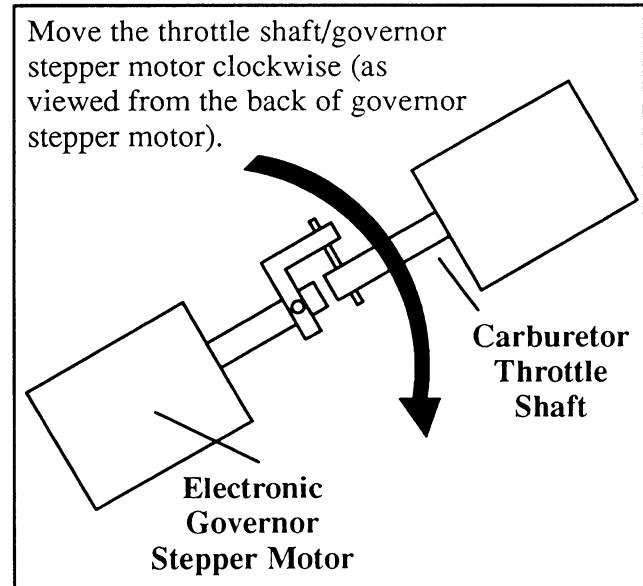

Figure 3-26. Manually Moving Stepper Motor
9. With unit running check overspeed cutout point. Manually move the throttle shaft/governor stepper motor coupling clockwise (as viewed from the back of the governor stepper motor). See Figure 3-26. Do not use **speed** adjustment pot. to check the overspeed cutout point. Observe frequency meter and note frequency at which generator set shuts down. Factory setting is 72 Hz. for 60 Hz. models and 60 Hz. for 50 Hz. models (or 120% of rated speed/frequency).